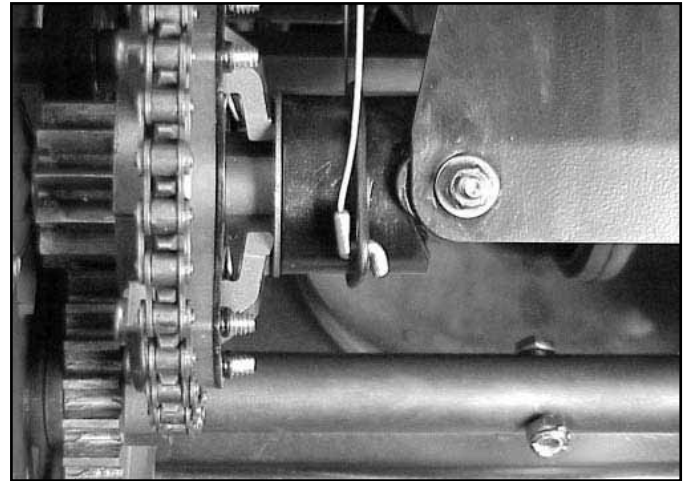

Fig 171
22. Install Z bend of the clutch cable from outside to inside of the shift collar (Fig. 171).